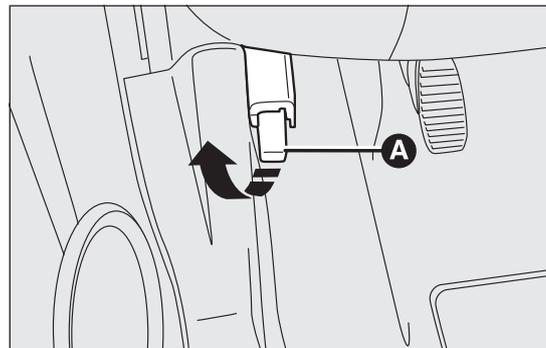

fig. 58
- pull lever A fig. 58 in the direction indicated by the arrow;